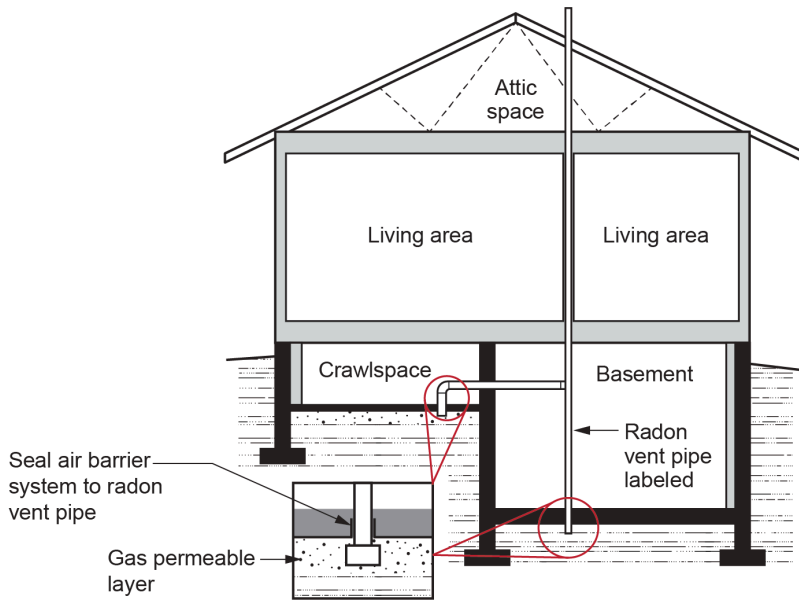

Figure 2 Soil gas depressurization system. (Government of BC/ Skilled Trades BC, 2021) Used with permission.
The most common and efficient soil depressurization systems require the following (see Figure 2):
- Space for the movement of soil gases between the ground and the air barrier system (see the gas permeable layer in Figure 2) into which a radon vent pipe is inserted.